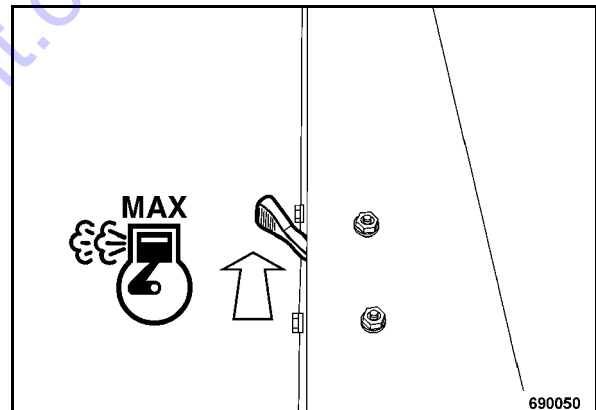

Fig. 25
- Set the throttle lever (Fig. 25) to position "MAX".